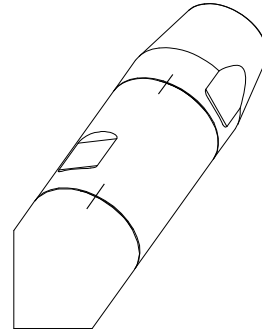

Figure 12-23 Place mark across joints
4. Using a scribe, paint or marker, place a mark across the joints as shown in Figure 12-23.